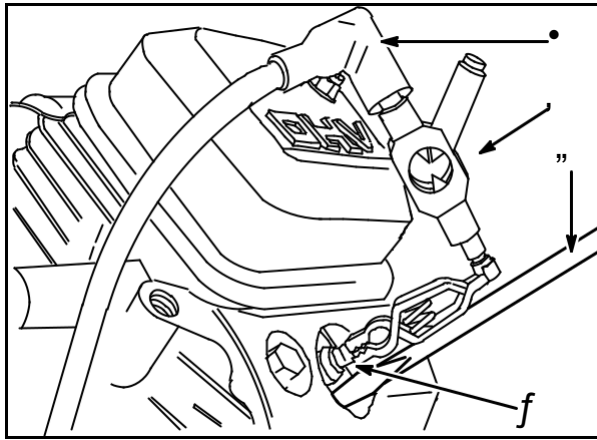

Fig. 6
Note RPM of engine. Ground one cylinder with screwdriver (4) by contacting alligator clip on ignition tester to a good ground on engine, **Fig. 6**. Note RPM loss.